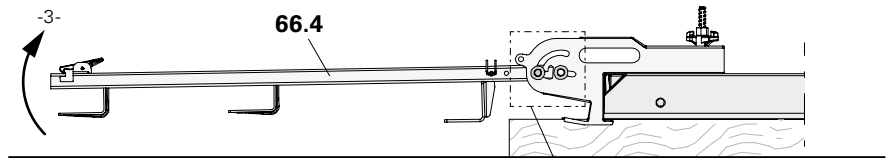

Fig. A7.26b
3. Tighten wingnut (66.3). (Fig. A7.26b)
- 3- position (Fig. A7.26b).